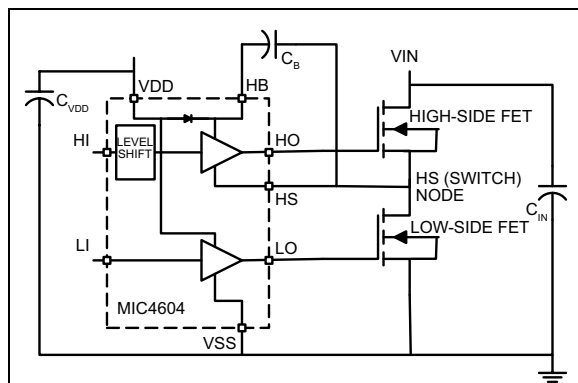
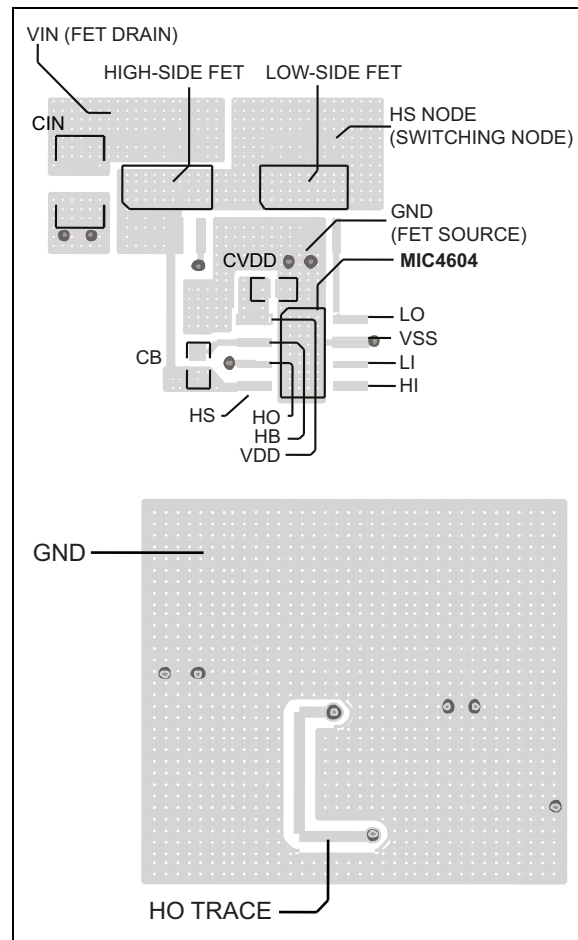

FIGURE 5-11: Synchronous Buck Converter Power Stage.
FIGURE 5-12: Typical Layout of a Synchronous Buck Converter Power Stage.
- Trace out the high d_i/d_t and d_v/d_t paths, as shown in Figure 5-11 and Figure 5-12, and minimize etch length and loop area for these connections. Minimizing these parameters decreases the parasitic inductance and the radiated EMI generated by fast rise and fall times.
A typical layout of a synchronous buck converter power stage (Figure 5-11) is shown in Figure 5-12.